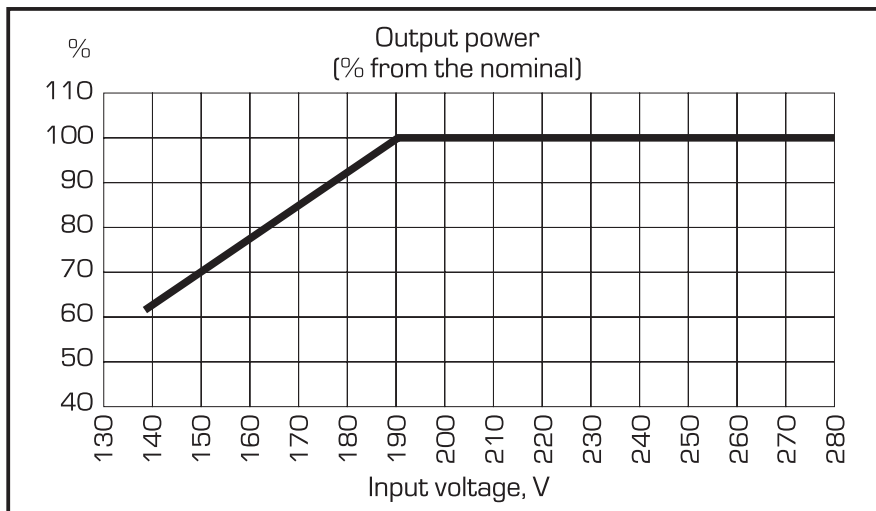

Fig. 1
* power calculation is made for stabilizer with input voltage from 190 V. If the voltage less than 190 V, please look fig. 1.